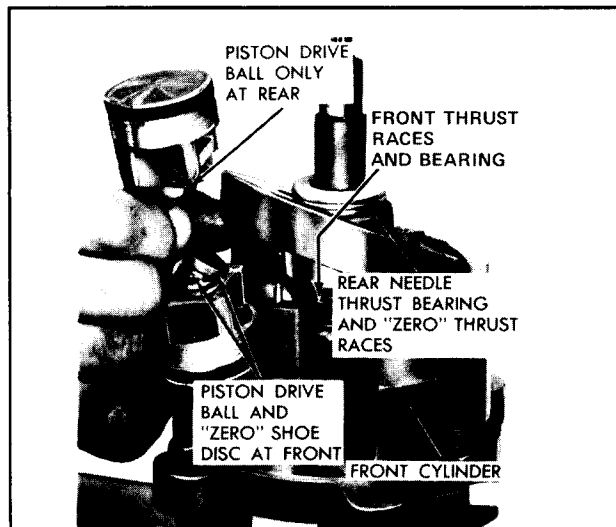

Figure 77—Installing Piston During Gaging Operation
10. Position piston over No. 1 cylinder bore (notched end of piston being on bottom and piston straddling axial plate) and lower the shaft to allow piston to drop into its bore (figure 77).